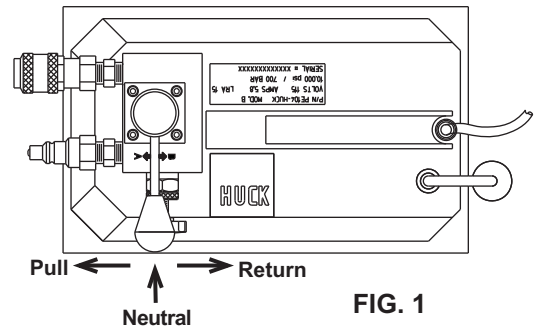

FIG. 1
Hydraulic Set-up (Refer to Fig 1 - 4)
1. Turn the valve control lever to the NEUTRAL position. (Fig. 1)
2. Start the pump by pressing the motor control ON/OFF switch. (Fig.1)
3. Turn lever to Pull Side, Huck tool will pull back installing the fastener. (Cutting the collar if cutter nose is used) (Fig. 1 & 4)
4. Turn lever to Return Side, Huck tool will return to full forward position pushing off collar (releasing cutter if used). (Fig. 1 & 2)
5. Turn the valve control lever to the NEUTRAL position. Shut pump off by pressing the motor control ON/OFF switch. (Fig. 1)